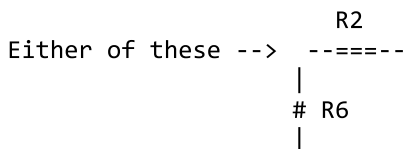

Figure 2, enlargement of the \* in figure 1.
20. With a piece of wire, connect the two board HOLES where the pins WERE to +5 You could use any +5 on the board. I used the leg of resistor R6 closest to resistor R2. (see figure 2 below)